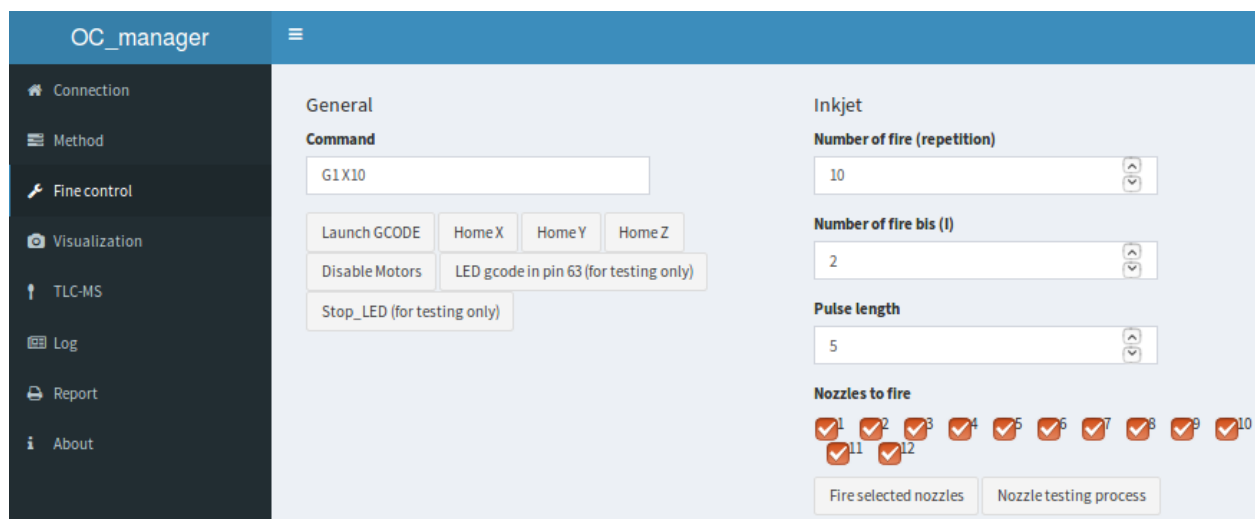

Figure 15: Fine tuning OC manager.
- In the Fine control tab (Figure 15): home the X axis and the Y axis, (if the motor are not in the good direction, turn off the full system and simply reverse the cable on the ramp)